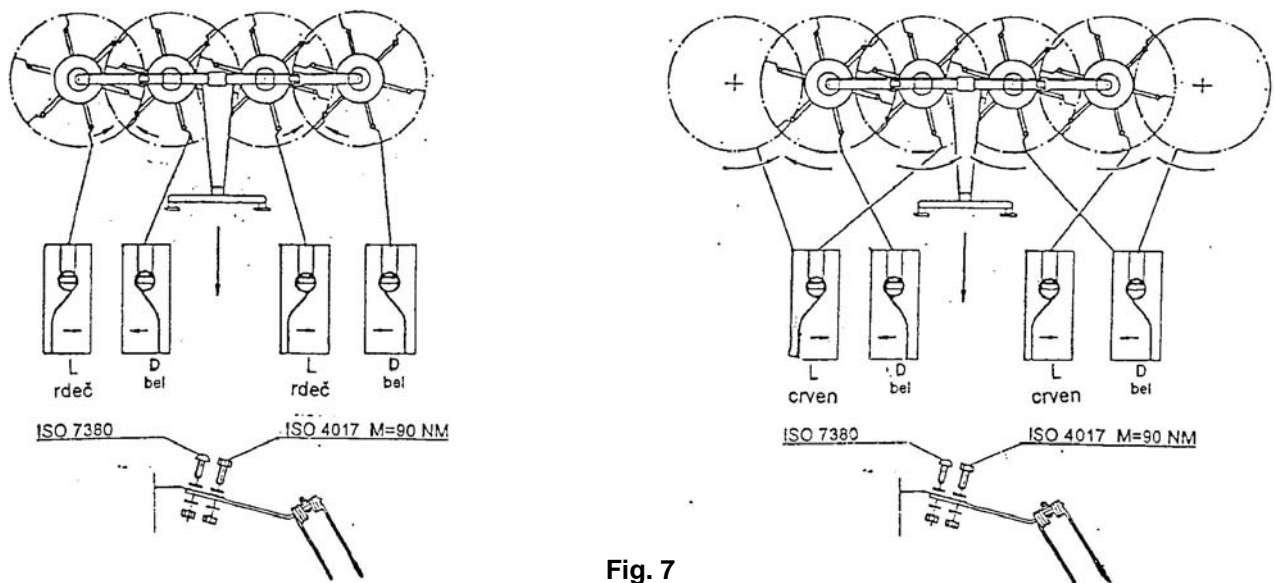

Fig. 7
- Check daily (before and after operation) that the spring tines and their holders are securely fastened. Ensure inclined to the correct angle – see *Fig. 7 on following page.*